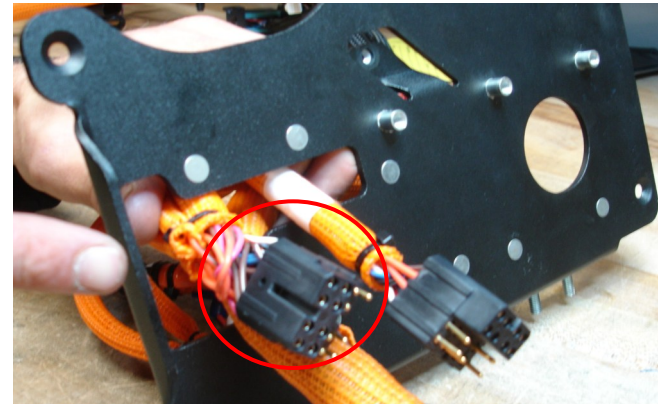

Figure 9
5. Route connectors from 'REAR MOD' and 'FRONT MOD' of HARN X MBB CTRL (ITEM 9) through bottom of plate. 'FRONT MOD' goes to the TOP of the battery MODULE SEPARATOR (ITEM 1) and connector. See FIGURE 9 and 10.